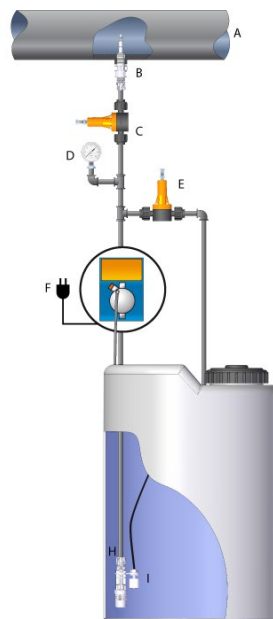

Fig. 7 – Typical system
Avoid excessive bends on the delivery pipe and on the suction pipe in order to prevent bottlenecks on the pipe. Apply a 3/8" or 1/2" gas female fitting on the piping of the system to be treated, at the most suitable point to inject the product to be dosed. This fitting is not included in the supply. Screw the injection valve in the "gasket fitting" by using PTFE tape, see Fig. 7. Connect the tube (5) to the tapered coupling of the injection valve (3) and block it with the specific ring nut (4). The injection valve (3) is also a check valve.